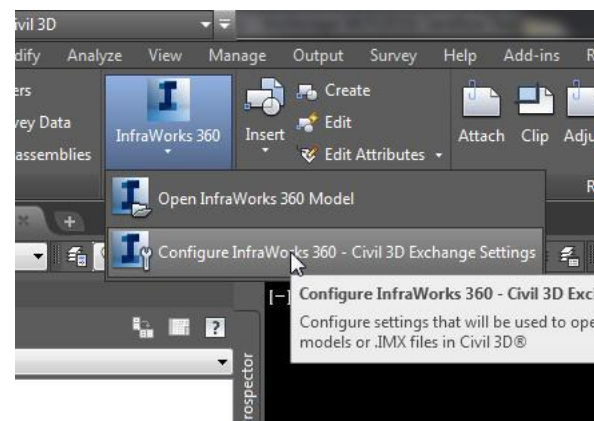

Figure 29: Import IMX file into Civil 3D
- Choose the Infracore 360 import button (Figure 29)